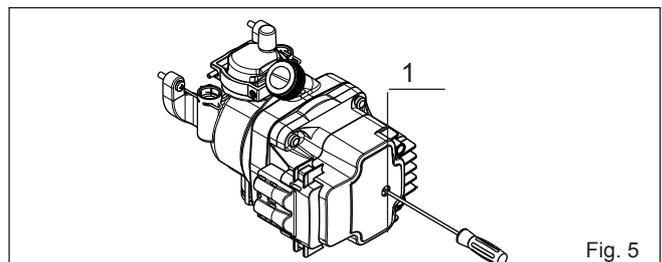

Fig. 5
- With a slotted screwdriver, rotate the shaft being careful not to strain the seat (Fig. 5)